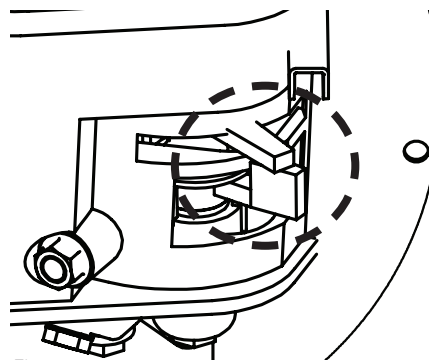

Figure 4
- If the engine is warm or the ambient temperature is high, open the choke lever half-way or keep it fully open. **SEE FIGURE 4 AND 5.**
9. After engine begins operating, move choke lever to "Half Choke." **SEE FIGURE 4.**